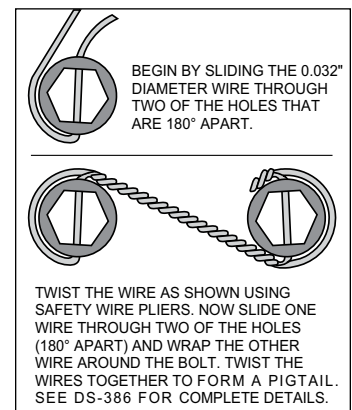

Figure 3. Safety Wire Diagram
- standard 0.032 inch diameter stainless steel safety wire as shown in Figure 3. Please refer to Wilwood's data sheet DS-386 (available at www.wilwood.com/Pdf/DataSheets/ds386.pdf) for complete safety wire installation instructions.